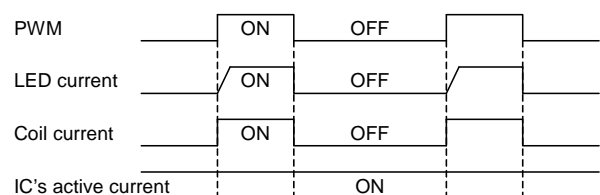

Figure 70. PWM dimming
(2)PWM Dimming controlled by 8bit current DAC and PWM duty for CABC, as shown in Figure 70.